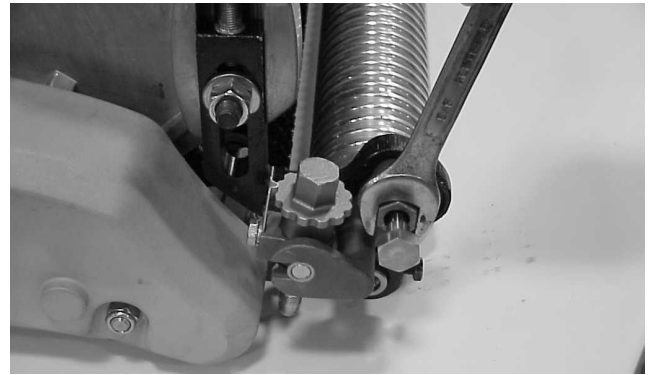

Figure 24
- Rotate the arms up or down (Fig. 24).